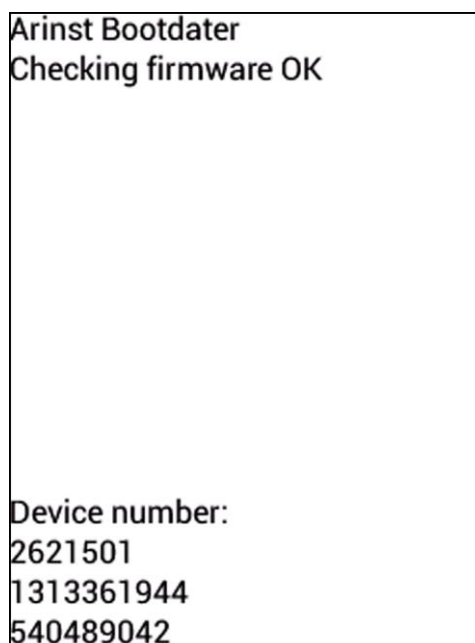

Figure A3.1 - Device screen after checking the downloaded firmware update
3.1. Standard firmware downloads, without errors. The device number and the result of checking the downloaded updates are displayed on the device screen (Figure A3.1).